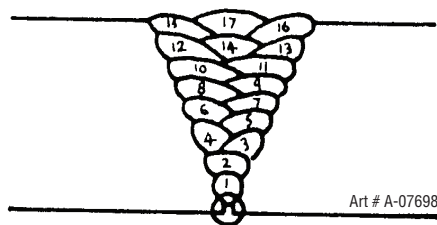

Figure 4-14: Weld build up sequence
A piece of angle iron is a suitable specimen with which to begin, or two lengths of strip steel may be tacked together at right angles. Using a 1/8" (3.2mm) E7014 electrode at 120 amps, position angle iron with one leg horizontal and the other vertical. This is known as a horizontal-vertical (HV) fillet. Strike the arc and immediately bring the electrode to a position perpendicular to the line of the fillet and about 45° from the vertical. Some electrodes require to be sloped about 20° away from the perpendicular position to prevent slag from running ahead of the weld. Refer to Figure 4-14. Do not attempt to build up much larger than 1/4" (6.4mm) width with a 1/8" (3.2mm) electrode, otherwise the weld metal tends to sag towards the base, and undercut forms on the vertical leg. Multi-runs can be made as shown in Figure 4-15. Weaving in HV fillet welds is undesirable.